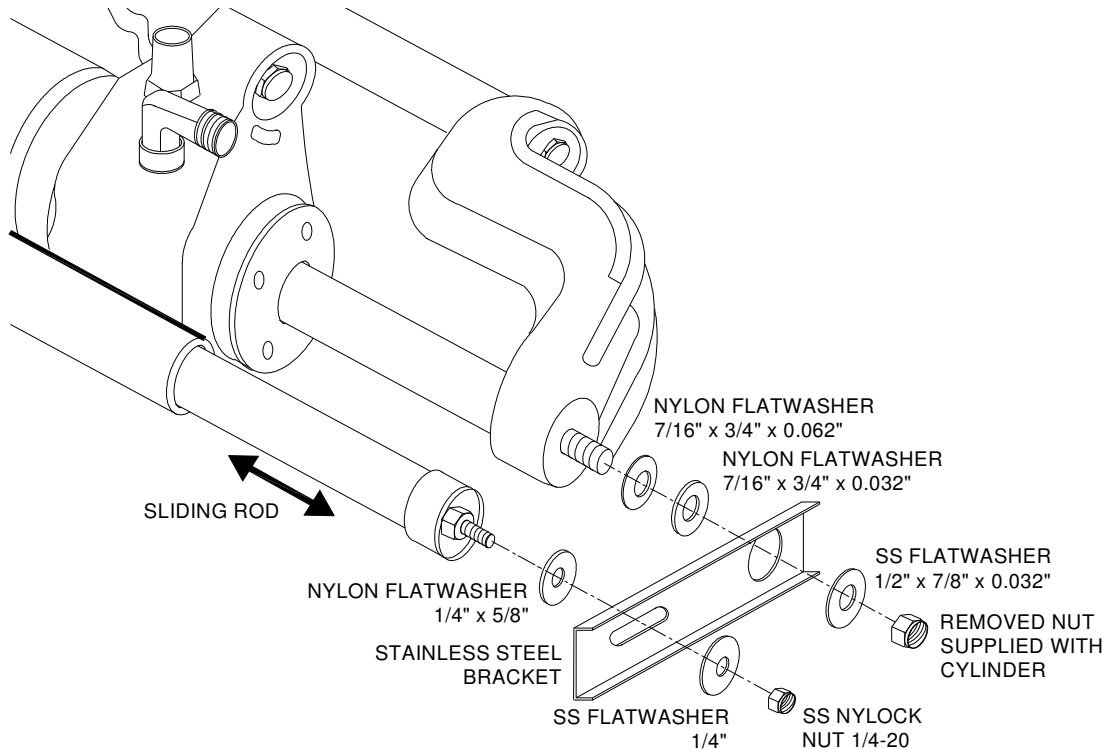

Figure 12 – Fasteners, Stainless Bracket Arrangement
- 4) Remove the nut from the steering cylinder rod's end (see Figure 12). Place the thick nylon flat washer (1.57 mm / 0.062" thick), then the thinner nylon flat washer (0.81 mm / 0.032" thick) and lastly the stainless steel bracket, over the threaded end of the rod. Place the stainless steel flat washer on the other side of bracket, and then replace the cylinder rod's nut. Do not tighten it yet – just thread it part-way, far enough to stay on.